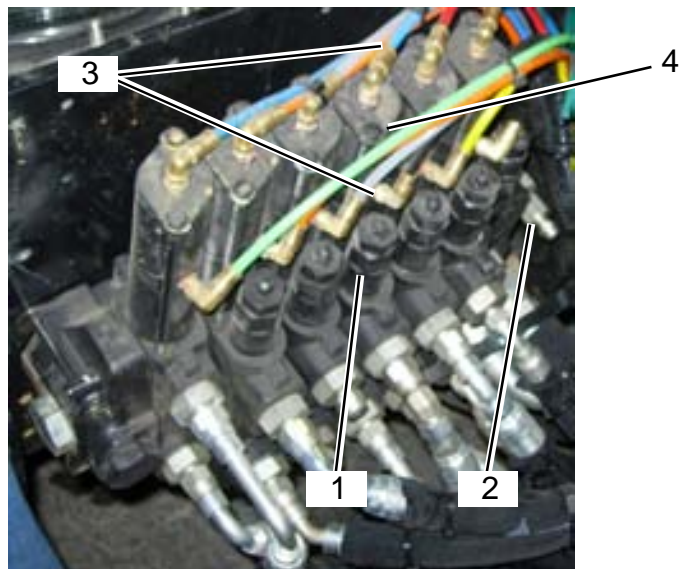
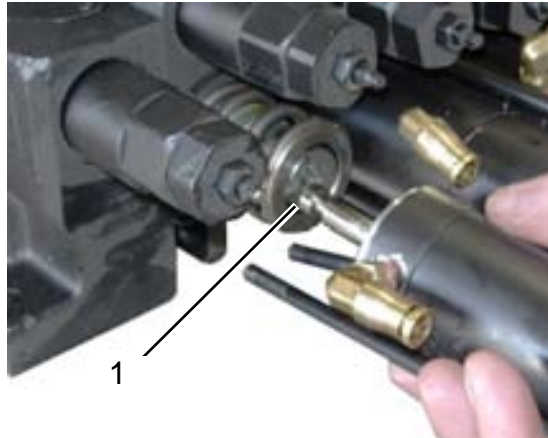

Figure 10
Figure 11
- Locate the third section (**Figure 10, 1**) away from the inlet section (**Figure 10, 2**) for the dump function. The inlet section can be identified by the main relief and pressure gauge port.
- Disconnect air lines (**Figure 10, 3**) from air actuator fittings.
- Loosen two (2) capscrews (**Figure 10, 4**) and remove air actuator. Air actuator must be moved to the side to slide the actuator rod (**Figure 11, 1**) out of the stripper bolt.